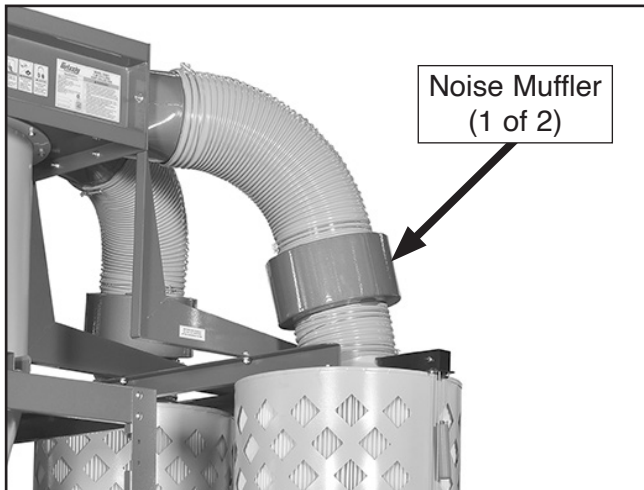

Figure 25. Noise mufflers connected between outlet ports and canisters.
22. Apply 3 x 15 x 700mm foam tape to both ends of each noise muffler, then connect mufflers between outlet ports and canisters with 8" flexible hoses and clamps, as shown in **Figure 25**.